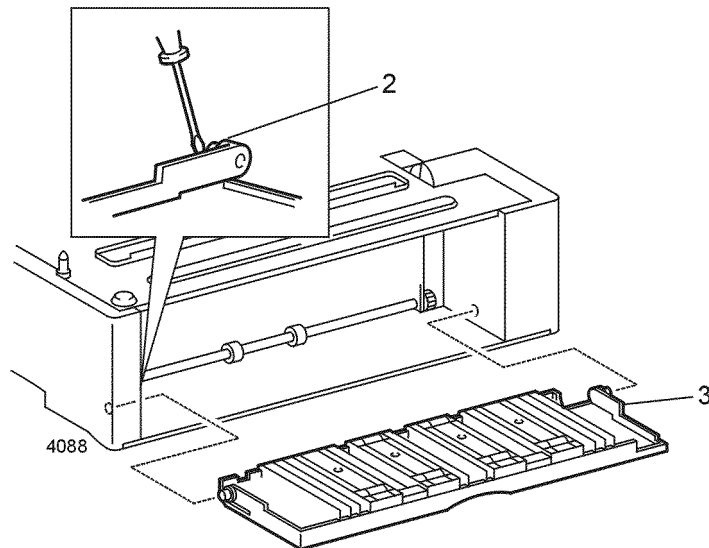

Figure 1 Rear Cover
2. Carefully pry the left hinge pin (as viewed from the rear of the feeder) out of the printer frame (Figure 1).
3. Pull the right end of the cover out and up (Figure 1). Remove the cover.